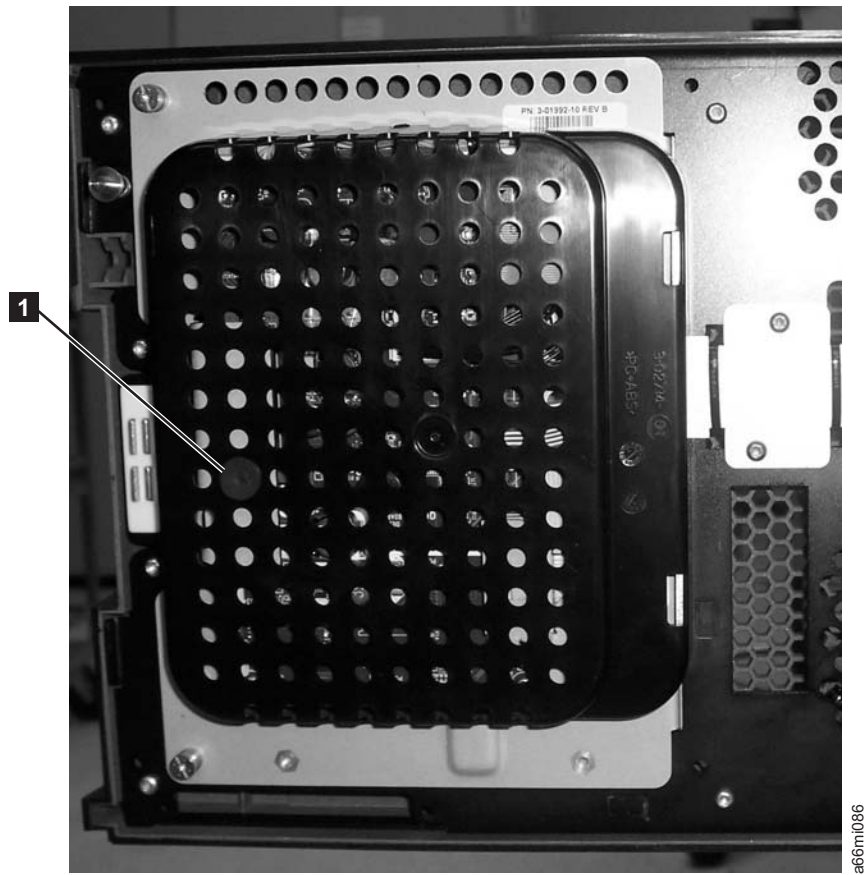

Figure 8-14. Operator Panel assembly
- b. Use a flat blade screwdriver to pry up on the plastic retaining pin (**1** in Figure 8-14 on page 8-21).